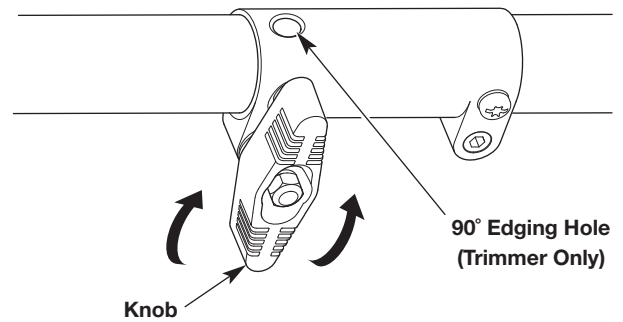
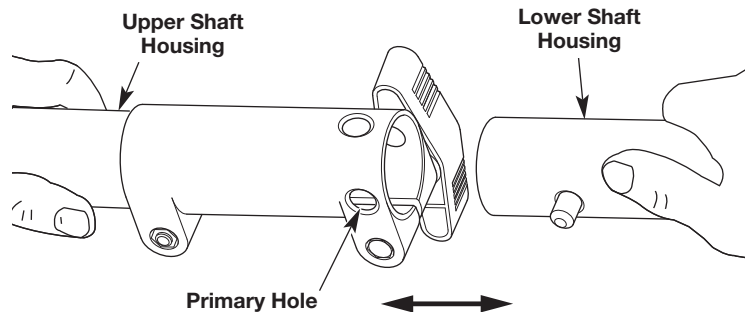

Fig. 3
Fig. 5
1. Turn the knob counterclockwise to loosen (Fig. 3).
2. While firmly holding the attachment, push it straight into the coupler until the release button snaps firmly into the primary hole (Fig. 5).
3. Turn the knob clockwise to tighten (Fig. 3).
CAUTION: Before operating the unit, make sure the release button is fully snapped into the primary hole (Fig. 5) and the knob (Fig. 3) is securely tightened.
For decorative edging with a string trimmer attachment, lock the release button into the 90° edging hole (Fig. 3).
3. While firmly holding the upper shaft housing, pull the attachment straight out of the coupler (Fig. 5).